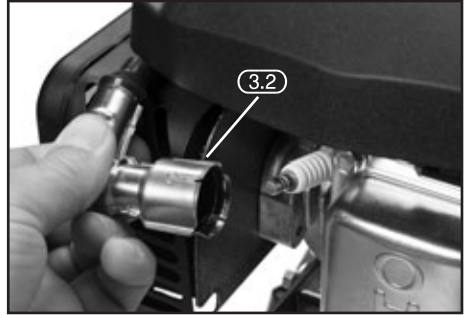

FIG.23
12.5 SPARK PLUG SERVICE - FIG. 23